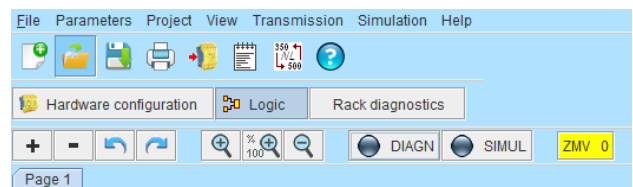

Fig. 2-3
- ▶ Select „Rack diagnostics“ in the menu "logic". (Fig. 2-3)